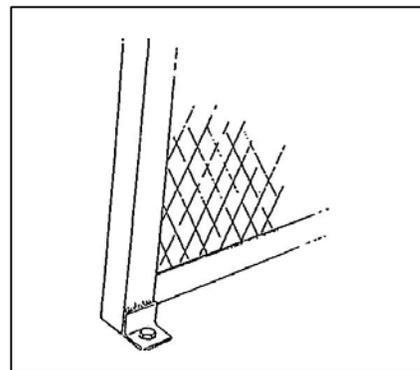

Figure 2
2. Standard panels are 8’ high in compliance with OSHA requirements. Total height includes 1½” legs. These panels are located and lagged to the floor. **See Figure 2.**